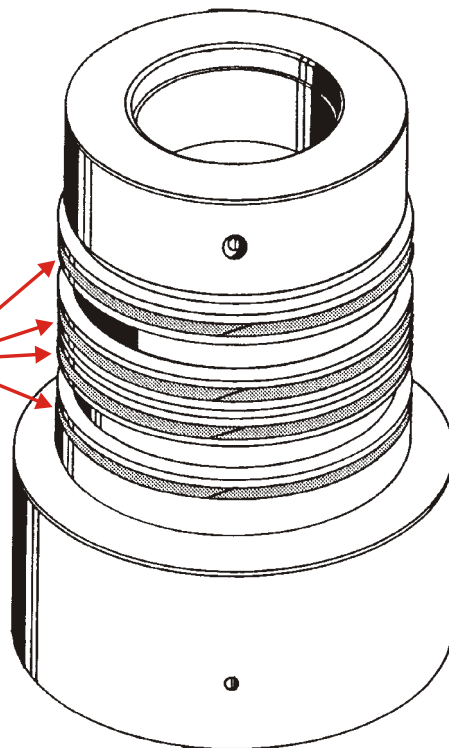

Figure 4
4. Inspect the forward clutch sealing rings that are installed on the low sprag inner race (*Refer to Figure 4*). Make sure there are no cuts or nicks in the rings. Carefully remove the ring from the inner race and bore fit the rings in the drum. **IMPORTANT:** There must be no more than .003" end gap between the butt ends of the rings. Replace the rings, or the low sprag inner race if necessary.